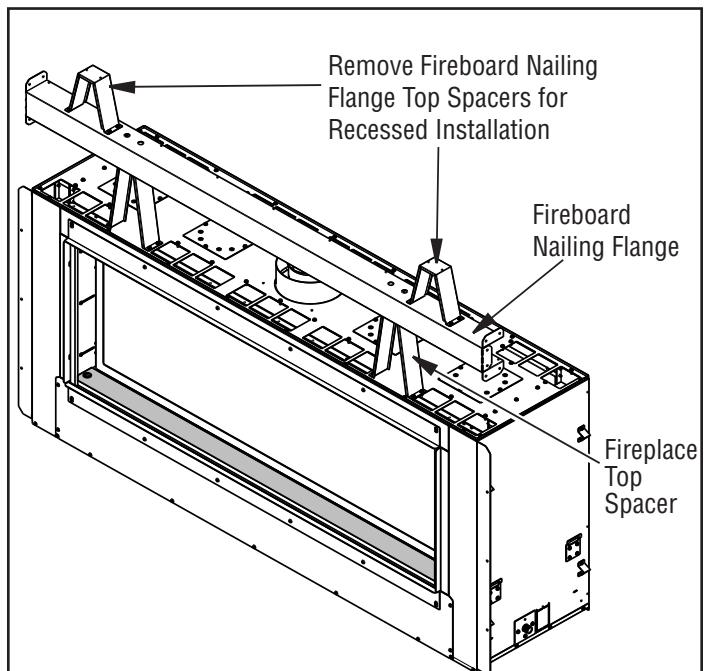

Figure 6 - Removing Fireboard Nailing Flanges and Fireboard Nailing Flange Top Spacers for Recessed Wall Pocket Installation
- Headers may be in direct contact with the nailing flange top spacers, maintaining the 20-1/4" clearance to the fireplace top, but must not be supported by them or notched to fit around them. All construction above the fireplace must be self-supporting. DO NOT use the fireplace for structural support. **Note:** On a recessed wall pocket installation, discard fireboard nailing flange and nailing flange top spacers (see **Figure 6**,page 15). Header may be in direct contact with the fireplace top spacers maintaining the 10-1/4" clearance to the fireplace top.
Note: Remove Fireboard Nailing Flange and fireboard nailing flange top spacers for recessed installation (*Figure 6*).